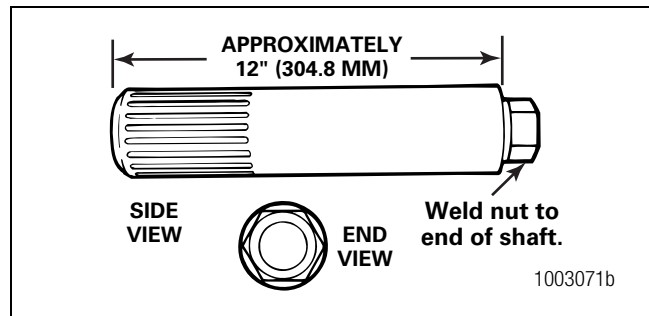

Figure 5.46
1. Make an inspection tool using an axle shaft that matches the spline size of the differential side gear. Cut the shaft to approximately 12-inches (304.8 mm). Weld a nut onto the end of the shaft. Figure 5.46.